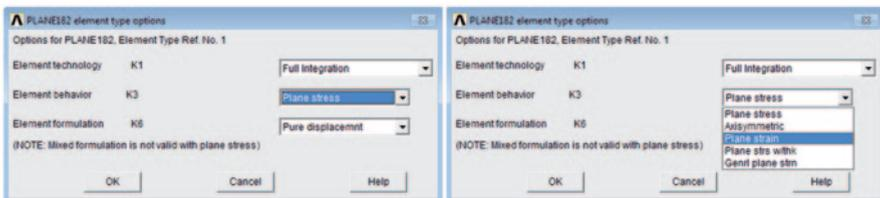

Fig. 4.8 *Keyoptions* for the **PLANE182** element
Many element types have additional options, known as *keyoptions* (**KEYOPT**), and are referred to as **KEYOPT (1)**, **KEYOPT (2)**, etc. For example, as shown in Fig. 4.8, **KEYOPT(3)** for **SOLID182** (4-noded quadrilateral 2-D structural element) allows the user to specify the type of two-dimensional idealization, i.e., plane stress, plane strain, axisymmetric, or plane stress with thickness.